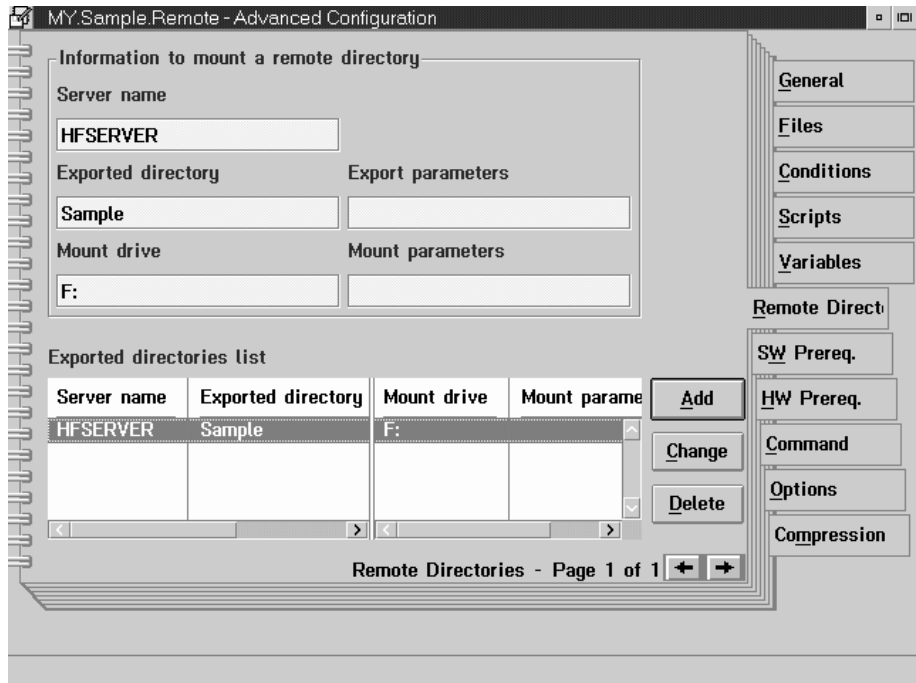

Figure 80. My.Sample.Remote - advanced configuration: remote directory page
- 10 Select the **Remote Directory** tab. The Remote Directory page is displayed, as shown in Figure 80 on page 170.
- 11 Fill in the entry fields contained in the Information to mount a remote directory group, as shown in Figure 80.